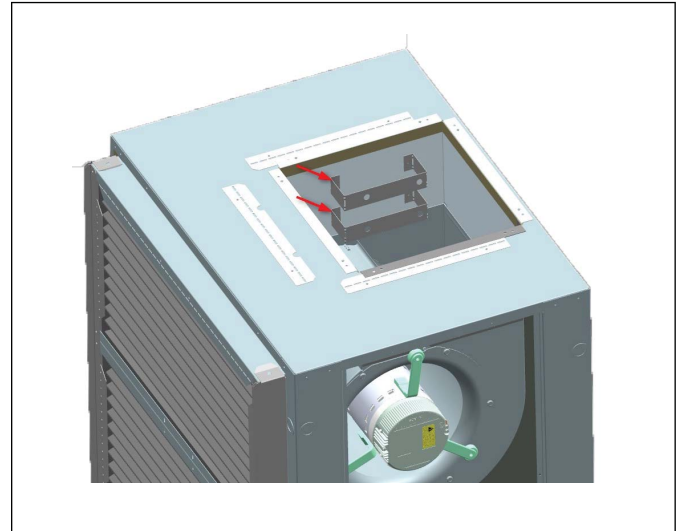

Figure 21 036, 048, 060, and 070 Models with Extension Bracket
3. For the 036,048,060, and 070 models, an extension bracket will already be installed in the unit as shown in figure 21.